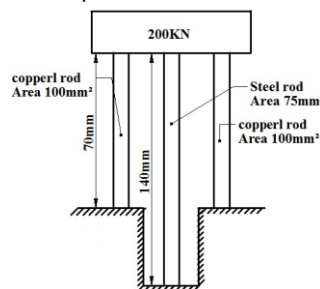

Figure 5
23. Two copper rods and one steel rod together support a load of 200KN as shown in **Figure 5**. Find the stress in the rod Take $E_s = 2 \times 10^5 \text{N/mm}^2$ and $E_c = 1 \times 10^5 \text{N/mm}^2$.